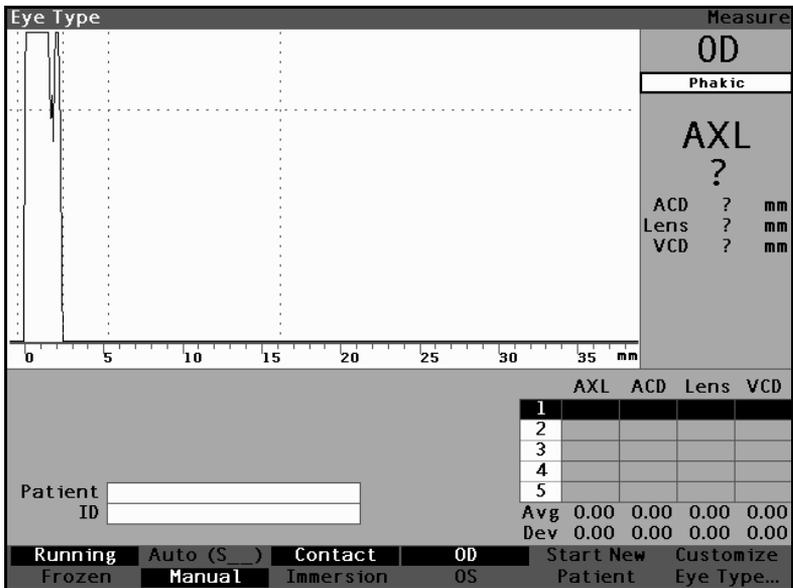

Figure 111 Eye Type Selected
1. Within the Measurement Screen, rotate the knob to select the eye type located at the top right side of the screen. Selection is indicated by a solid black border. (See Figure 111 below.)